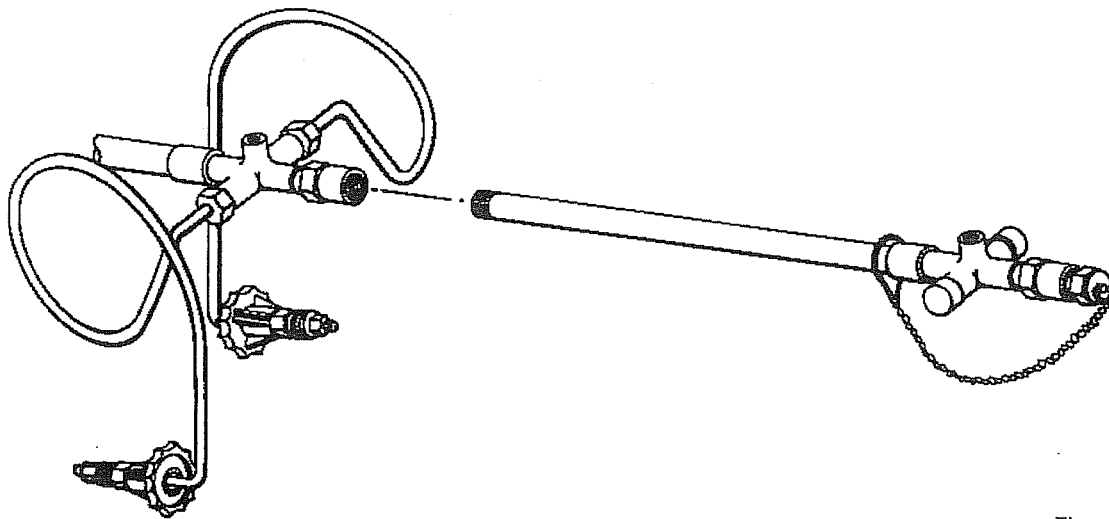

Figure 2-11
If additional cylinders are required, remove the blind gland and union nut from the manifold header. Add a header extension to the outboard connection of the manifold header (Figure 2-11). Then, install the blind gland and union nut to the outboard connection of the header extension.
2. Screw a header extension into the outboard connection of each manifold header. (Figure 2-11)